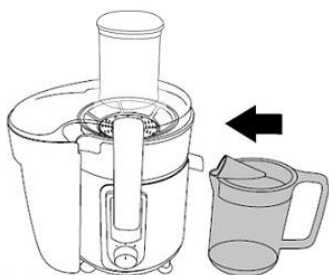

Fig.7
8. Fit the jug and position the jug under the spout (Fig. 7).